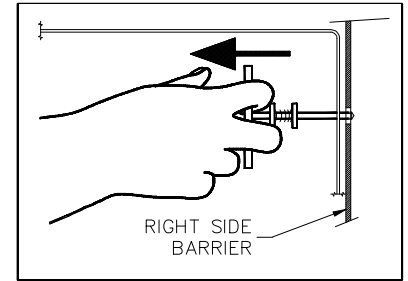

FIGURE 3-22: UNLATCH FRONT PLATFORM SECTION
- 3) Refer to **Figure 3-22**. Unlatch front platform section by pulling platform release T-handle (located at right side of platform) to the left.